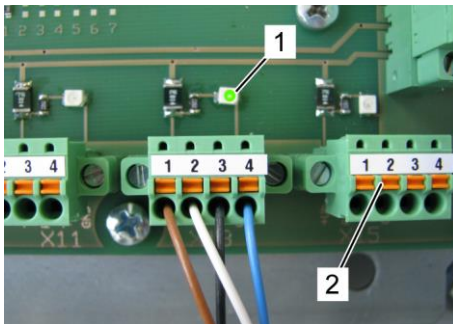

Fig. 112: Terminal box
2. ...please open the Terminal box and check all connected terminals for the respective LED (Fig.112/1) being on.
3. If a LED is off remove the respective connector (Fig.112/2).
- ↳ The LED (Fig.112/1) must be on.